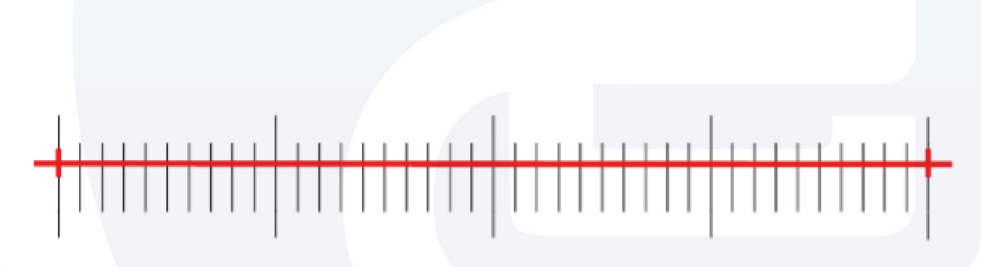

Figure 5-8
- 3. The minimum range of the selected micrometer is 0.01 mm (10 micron). Figure 5-8 shows the image under a 10x objective. At this time the "magnification" is set to "10X", the "unit" is marked as "μm", and the "length" is set to "40"